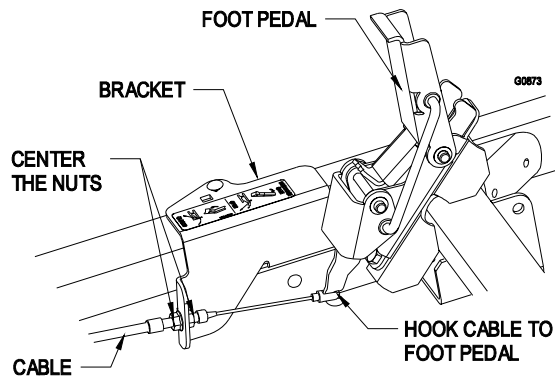

FIGURE 6
3.2.6 Install cable. Make sure the nuts are centered as shown in Figure 6.
- 3.2.14 Slide the bracket that is shown in Figure 6, back and forth to adjust the cable tension. Take up the slack in the cable, but it should not be taut. Tighten hardware to retain the bracket.